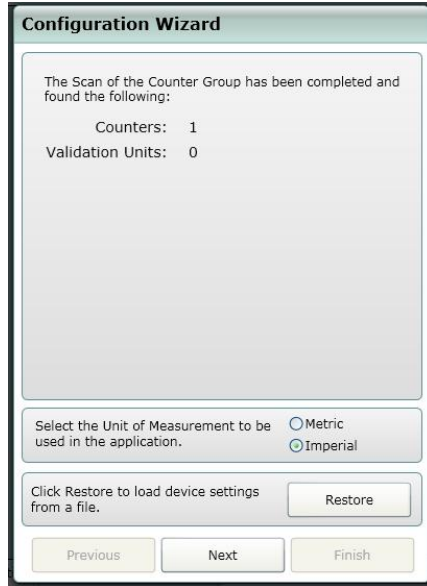

Figure 11
7. Press Next and you will be presented with a confirmation screen showing the number of sensors and the desired measurement format. See Figure 11 below for an illustration.